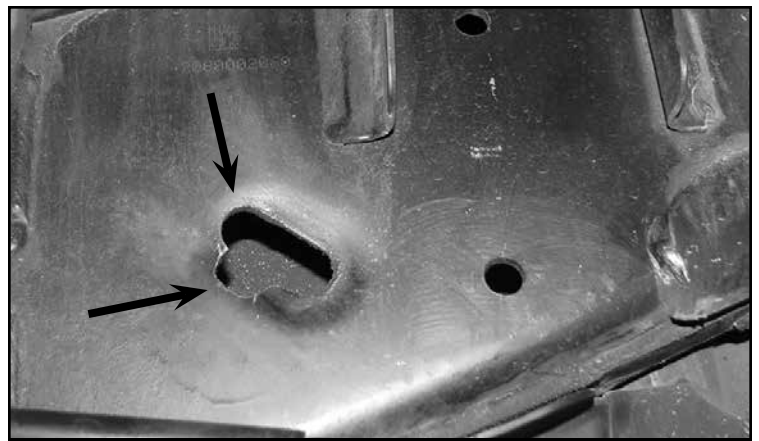

FIGURE 14 - STEP 13
13. Remove and drill out the mark made using a 1/2" drill bit. The hole just in front of the hole drilled will need to be opened up. Grind out approximately 3/4" up and left. **SEE FIGURE 14**